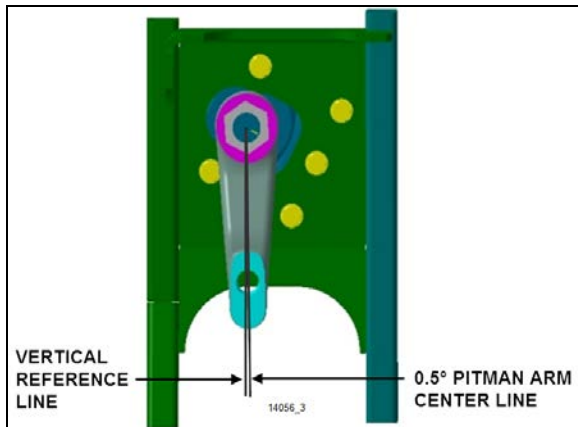

FIGURE 35: IFS PITMAN ARM ALIGNMENT
4. Check that the angular relationship of the pitman arm to the steering gear is as shown in Figure 35.